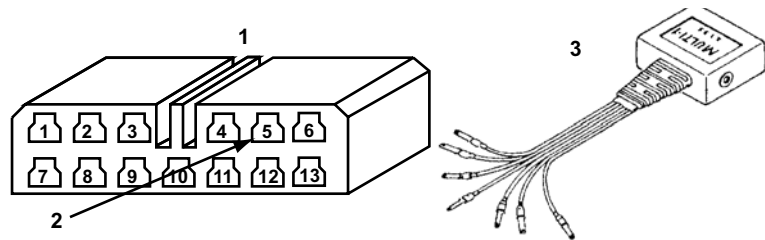

Figure 15-24 13-pin Check connector
- a. If your Check connector is under the hood and black, connect the blue wire of the MULTI-1 adapter to pin 5 of the Check connector (Figure 15-24).